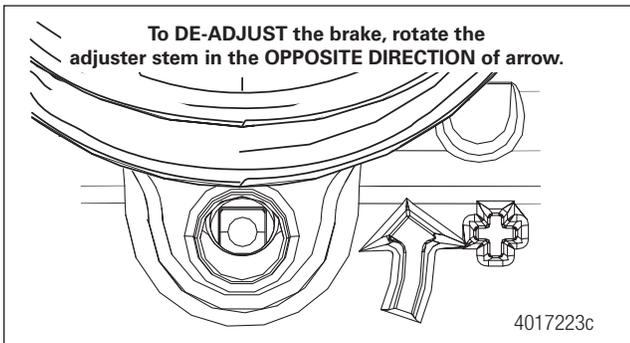
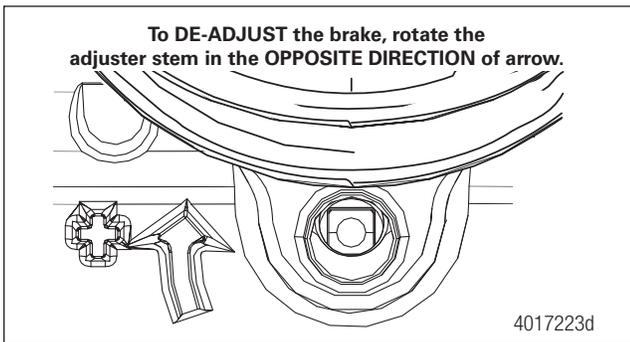
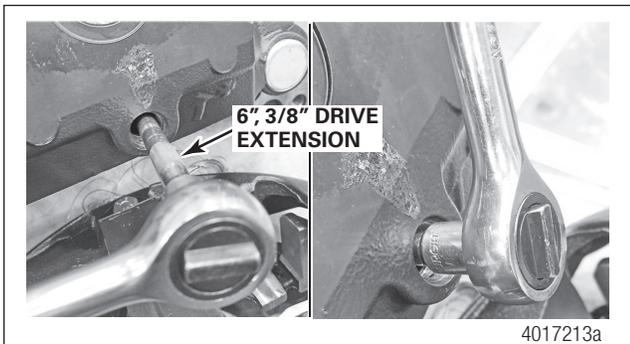

Fig. 6.2 Adjustment Arrow Cast into the Caliper Housing (RH)
Fig. 6.3 Adjustment Arrow Cast into the Caliper Housing (LH)
Fig. 6.4 Rotate Adjuster Stem using Wrench with 6" 3/8-Drive Extension
STEP 3 - Use a six-inch (6") standard 3/8" extension on a hand-held ratchet wrench to de-adjust the brake. Rotate the adjuster stem IN THE OPPOSITE DIRECTION OF THE ARROW CAST INTO BACK OF HOUSING until you feel the adjuster stem stop. De-adjustment requires more force than adjustment. Do not exceed 30 lb-ft (40 Nm) in either direction. Figure 6.2, Figure 6.3 and Figure 6.4.
When re-adjusting the brakes (rotating the adjustment mechanism IN THE DIRECTION OF ARROW CAST INTO BACK OF HOUSING), do NOT extend the piston beyond 3.75" (95 mm), from the stamped tappet plate to the outer face of the piston, or the piston can come completely out of the housing assembly. Figure 6.3. The brake housing assemblies do not have a travel stop feature to prevent the piston from over traveling. The risk of the piston rotating out of the housing assembly may be increased further if the caliper assembly is removed from the vehicle, or if the caliper assembly is left on the vehicle, but the rotor is in a worn condition. If the piston becomes disengaged from the threads, take care not to unseat the boot. Re-engage the threads and rotate the adjuster in the de-adjust direction to reseat the piston.